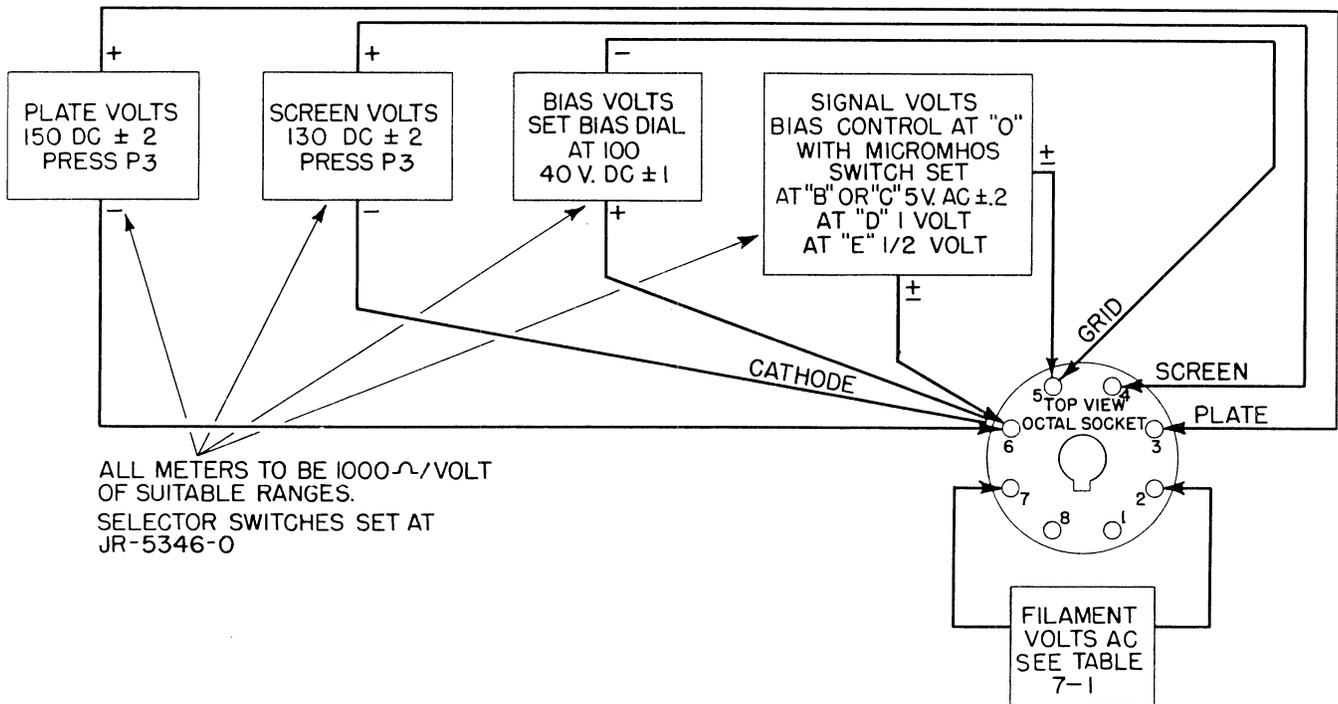

Figure 7-1. Voltage Calibration Check Diagram
Voltage tests must be made with an external multimeter, or individual meters of 1000 ohms per volt sensitivity having suitable ranges of ac and dc connected as illustrated by Figure 7-1. The Multi-meter section of the TV-3B/U cannot be used for these tests. If the voltages are not in accordance with the following paragraphs 7a(2) through 7a(6), refer to paragraph 8 and Table 7-2 of this section for probable causes.
(a) Connect the positive (+) terminal of the voltmeter to contact No. 3 of the OCTAL test socket, X-111, and the negative (-) terminal to contact No. 6 of the same socket. (See figure 7-1.)
(a) Connect the positive (+) terminal of the voltmeter to contact No. 4 of the OCTAL test socket X-111, and the negative (-) terminal to contact No. 6. Set BIAS control to zero. (See figure 7-1.)
(b) Connect the positive (+) terminal of the voltmeter to contact No. 6 of the OCTAL test socket X-111 and the negative (-) terminal to the No. 5 contact. (See figure 7-1.)
(b) Connect the terminals of the ac voltmeter to contacts 5 and 6 of the OCTAL test socket X-111. (See figure 7-1.)
(1) Turn on the equipment and set all controls in accordance with paragraph 7a(1) of this section.
(2) Connect a voltmeter between pins 5 and 6 of OCTAL socket X-111 as illustrated by figure 7-1.
(3) Set BIAS control R-139 at 100.
(4) Adjust slider "A" of R-145 until the meter reads 40 volts dc.
(5) Connect a voltmeter between pins 4 and 6 of OCTAL socket as in figure 7-1.
(6) Press buttons P3 and P2 and adjust slider "B" of R-145 until the meter reads 56 volts dc.
(7) Tighten the slider screws and recheck the voltages.